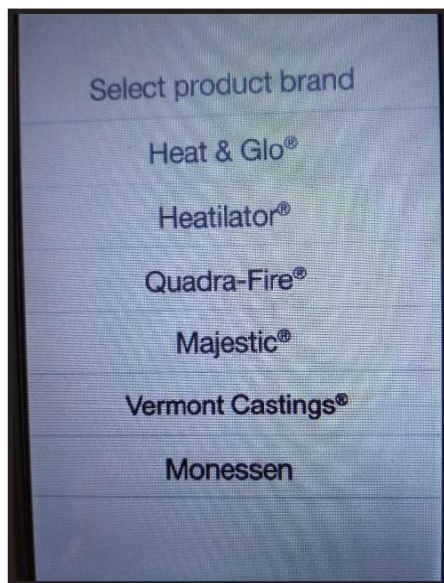

Figure 7 IFT-RC400 Branding Screen
4. Select your choice of product brand from the list on the IFT-RC400 screen. See Figure 7.